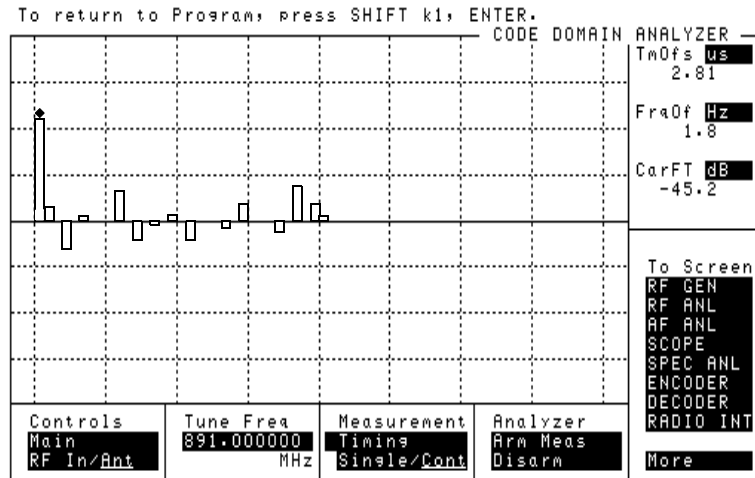

Figure 13
- 7 You should now see a display of relative timing, as shown in figure 13.